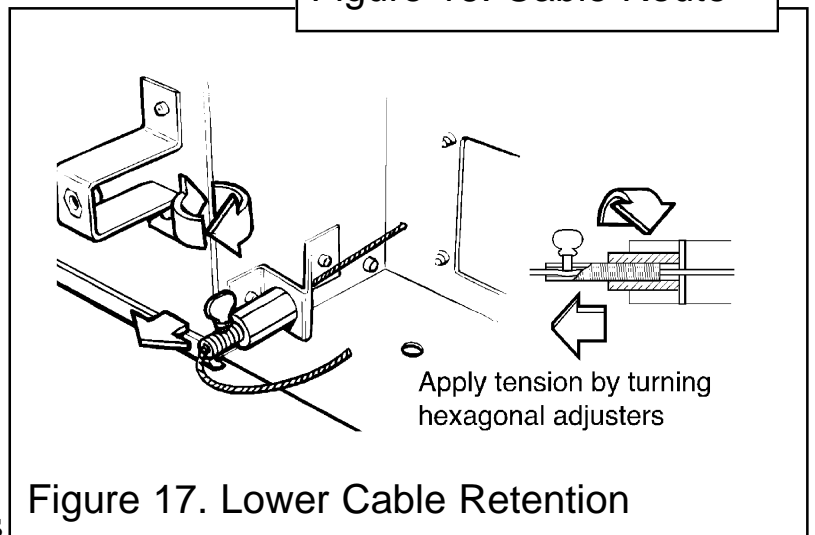

Figure 17. Lower Cable Retention
9. Pull each cable taut. Push the cable retainers hard up against the "V" brackets. Tighten the screws in the retainers so that they clamp the cables in position. Apply tension to the cables by turning the hexagonal adjusters by hand. See figure 17.